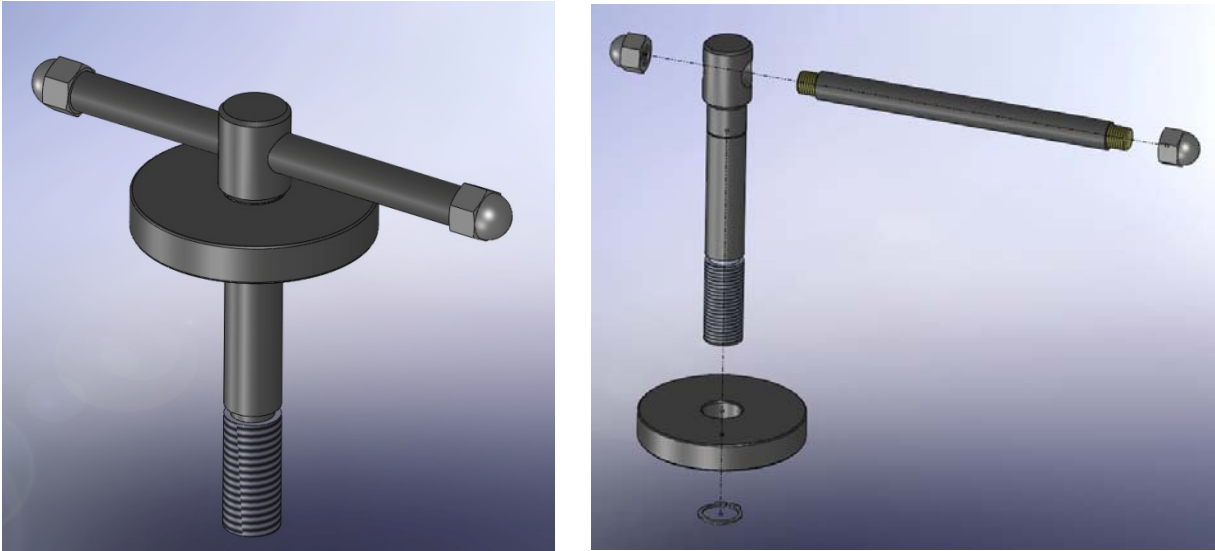

Figure 6.9
6.2.2 Locking system installation: Install all the components according to the figure 6.9